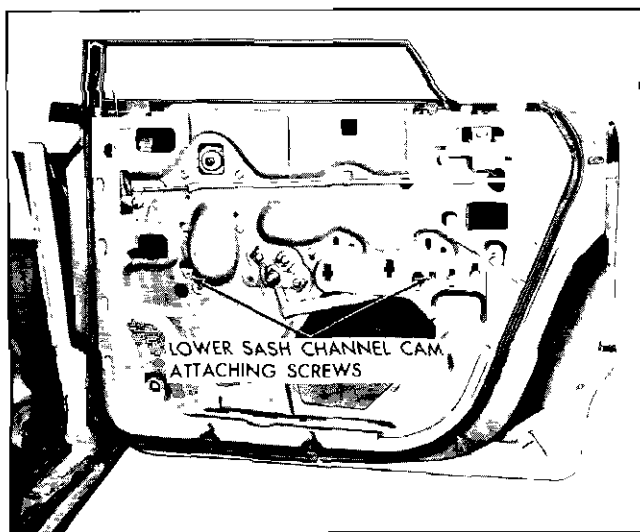

Fig. 2-40 Sash Channel Cam
2. Lower door window sufficiently to gain access to lower sash channel cam attaching screws through access holes in door inner panel and remove screws. (Fig. 2-40).
3. Lower door window and remove lower sash channel cam attaching screws (Fig. 2-40).